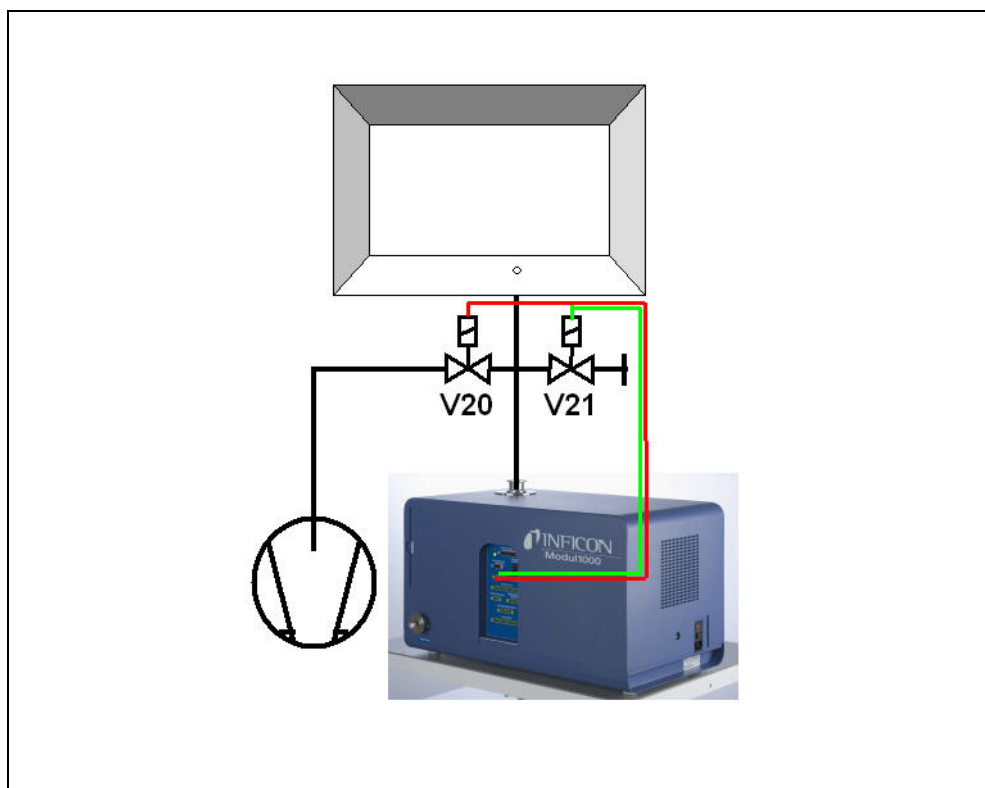

Fig. 5-1 Partial flow mode
The vacuum chamber is evacuated by the Modul1000, optionally also in partial flow mode (Fig. 5-1 Partial flow mode). The test sample in the vacuum chamber is connected to the helium filling station through the chamber walls and is filled with helium after the chamber has been evacuated.
- 2** After the START signal, the Modul1000 starts evacuating the vacuum chamber. If a partial flow pump is connected with Modul1000, the partial flow valve V20 (Fig. 5-1) will be actuated and the test run is accordingly supported by the partial flow pump.
- 11 After that, the vacuum chamber is ventilated by the Modul1000 (and the external flood valve V21 (Fig. 5-1), if connected) to reach the atmospheric pressure.